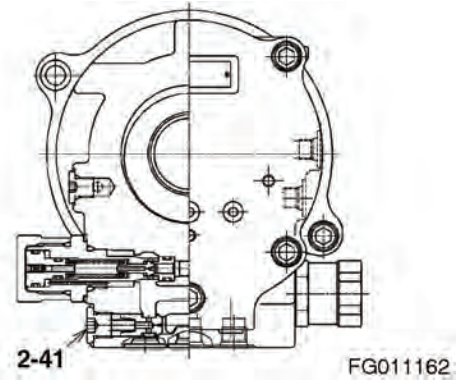

Figure 49
3. Install plug (2-41, Figure 49).